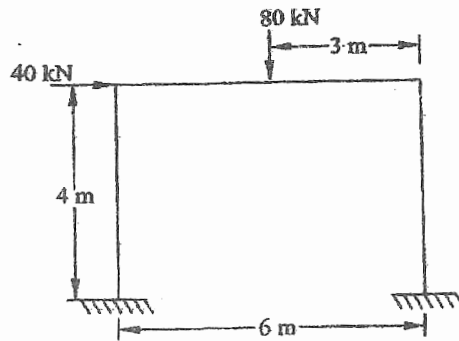

Fig.6
10. Determine the plastic moment capacity of the section required for the frame shown in fig.6. The loads shown are the working loads. Take load factor $\lambda=1.85$. Assume same plastic moment capacity for all the members.